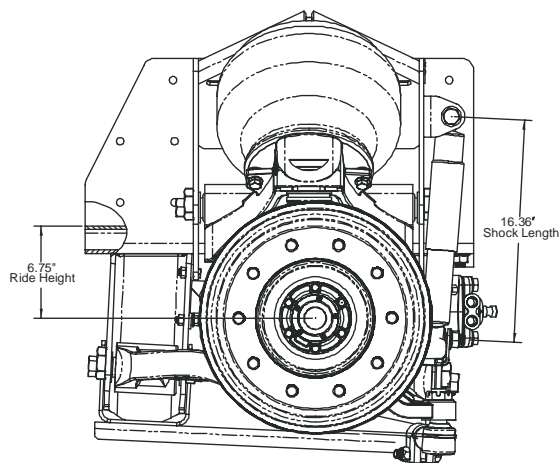

Figure 11 – Measurement at Ride Height
The ride height of the front suspension is the distance from the bottom of the chassis frame rail to the center of the wheel spindle. The correct distance is 6-3/4". An alternate measurement may be taken as the distance between the centers of the shock mounts, which should be 16.36". (See Figure 11).
3. Check the ride height of the rear suspension on vehicles with front suspension equipped with (2) height control valves.
4. Measure either the wheel center to bottom of frame or shock length. If the dimensions are not within $\pm 1/8$ " of the dimensions specified in figure 11, adjust as follows.